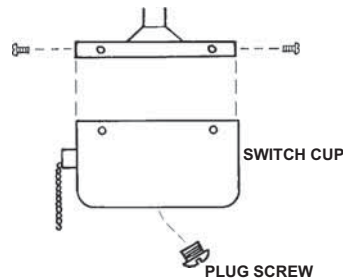

Fig 18
Step 1. Remove existing switch cup from bottom of fan. (Fig.18)
Step 2. Remove plug screw in bottom of switch cup. (Fig.18)
Step 3. Feed black and white wires from light kit through hole in bottom of switch cup and thread stem of light kit into same hole until snug. (Fig.18)